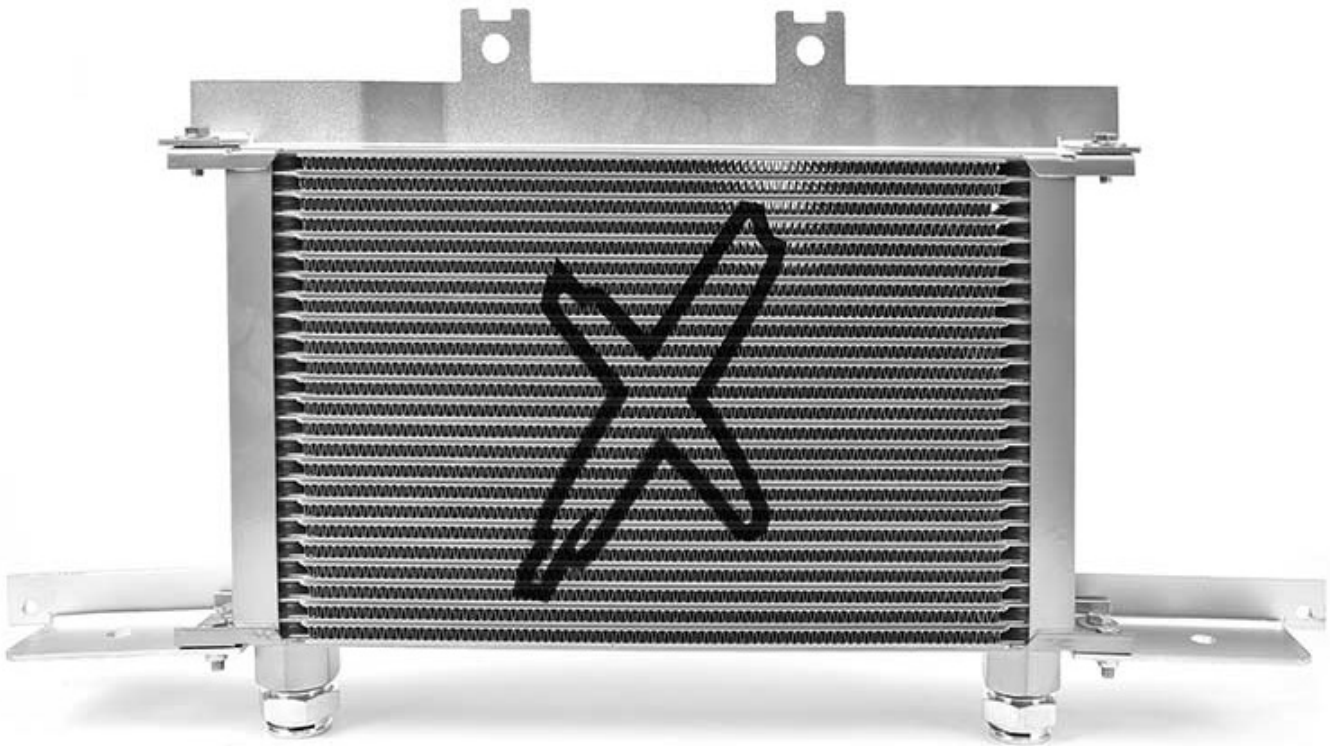

FIGURE 1
- 9** Assemble the brackets on the cooler as shown in figure 1, but do not tighten the bracket bolts yet.